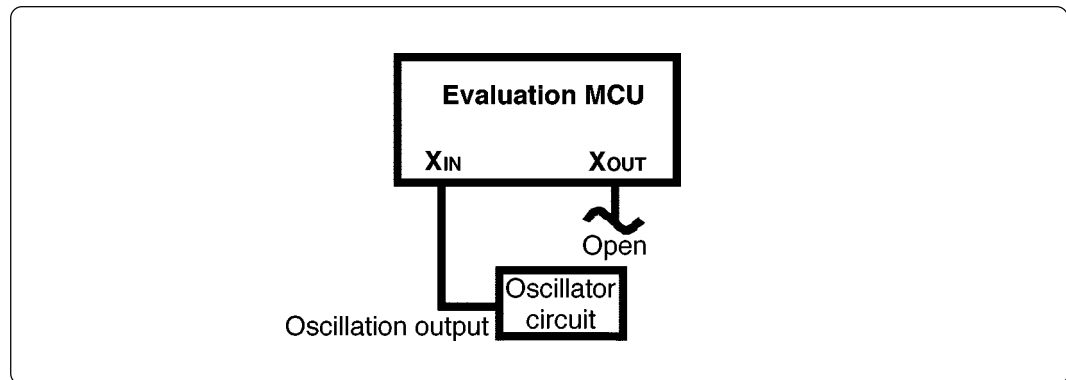

Figure 3.4 External oscillator circuit
- To operate the emulation pod with an external clock, construct the oscillator circuit as shown in Figure 3.4 in the target system and input the oscillator output at 50% duty (within the operating range of the evaluation MCU) into the X_{IN} pin. And the X_{OUT} pin should be open.